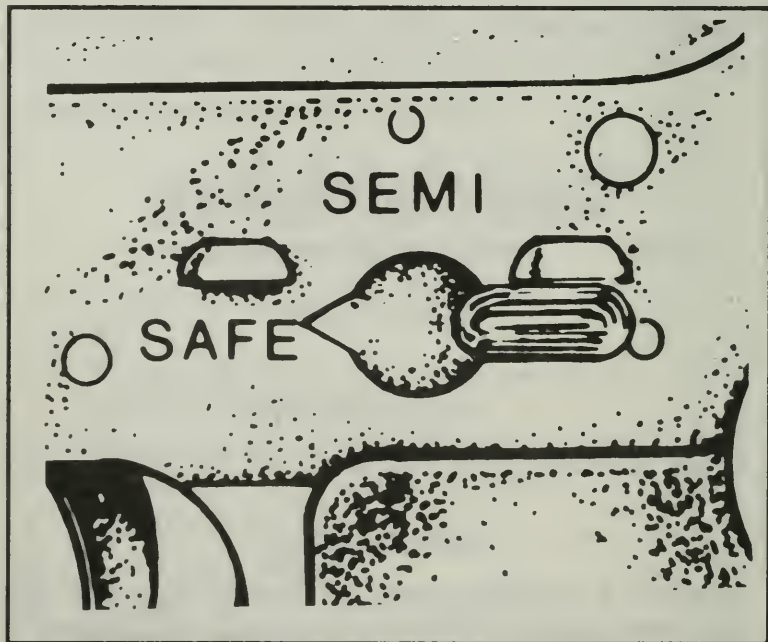

Figure 90. Selector on SAFE.
- a. **SAFE.** Pull the charging handle to the rear and release. Place the selector on **SAFE** (Figure 90). Pull the trigger; the hammer should not fall.